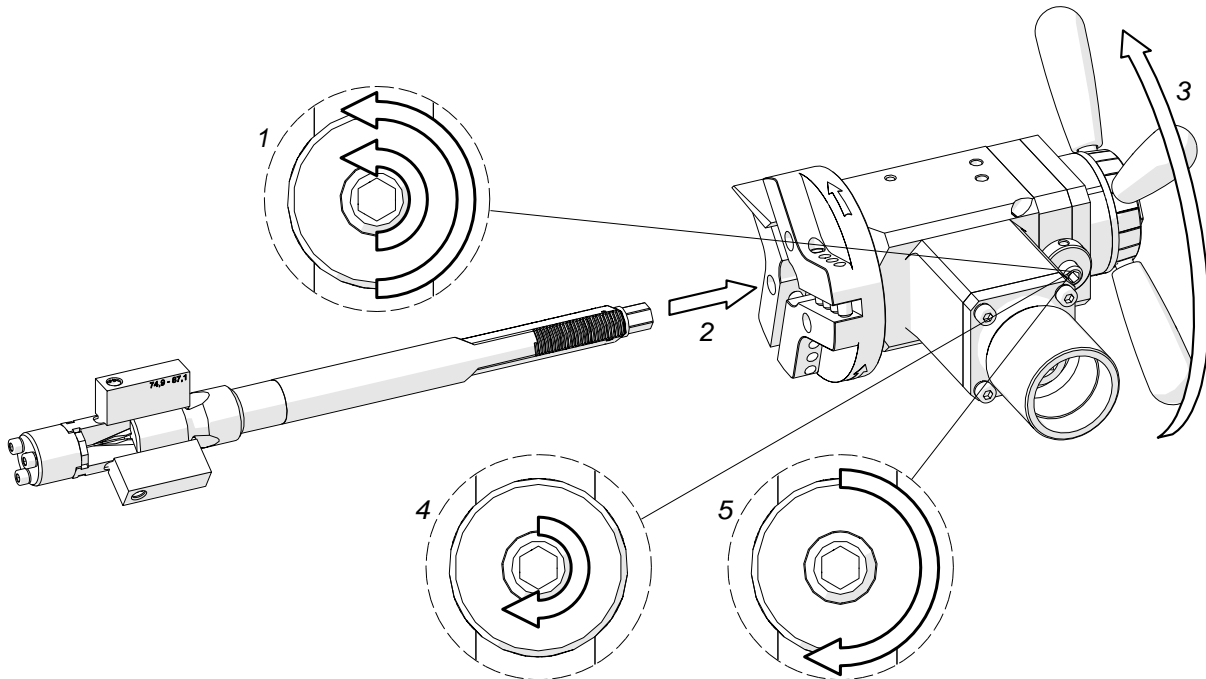

Fig. 3. Installing the mandrel into the machine
Loosen the nut and use the 6 mm hex wrench to loosen the set screw (1, Fig. 3), and insert the mandrel into the machine (2). Make sure that tool bits installed are not in contact with the mandrel. Next, rotate the handles to the right (3) by at least 10 turns until the mandrel engages with the machine fully. Then, tighten the set screw (4) and check whether the handles can be rotated in both directions easily. If the screw is too tight, readjust it. Finally, tighten the lock nut (5).
To remove the mandrel, loosen the nut and use the 6 mm hex wrench to loosen the set screw (1, Fig. 3) by at least one turn. Then, rotate the handles to the left to remove the mandrel.